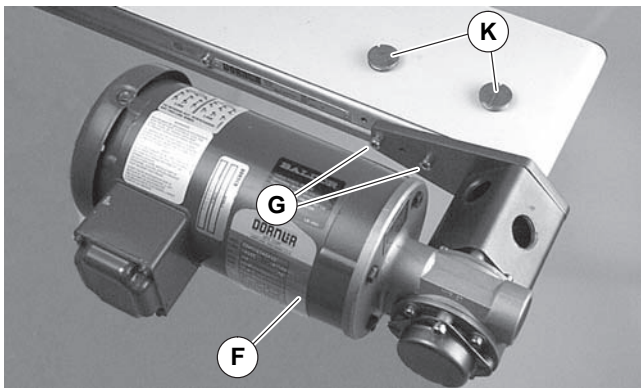

Figure 15
3. Remove inspection plugs (Figure 15, item K).
4. Slide coupling over drive output shaft and install drive assembly (Figure 15, item F) with screws (G). Tighten to 80 in-lb (9 N-m).
6. Replace inspection plugs. (Figure 15, item K).
1. Remove inspection plugs (Figure 15, item K).
3. Remove two (2) screws (Figure 15, item G). Remove drive assembly (F).